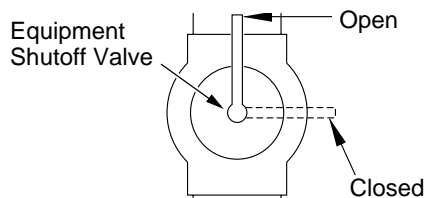

Figure 7- Equipment Shutoff Valve
1. Close equipment shutoff valve (see Figure 7).
1. Open equipment shutoff valve (see Figure 7).